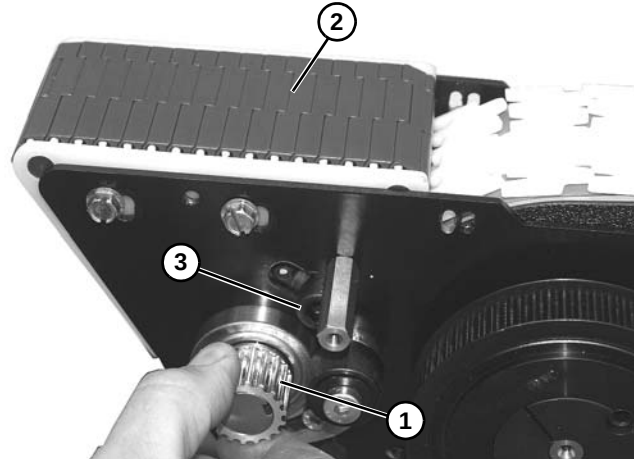

Figure 123
9. Rotate drive shaft (Figure 123, item 1) to verify tightness of belt (Figure 123, item 2). Belt should turn freely. Loosen socket head screw (Figure 123, item 3) and adjust, if necessary.